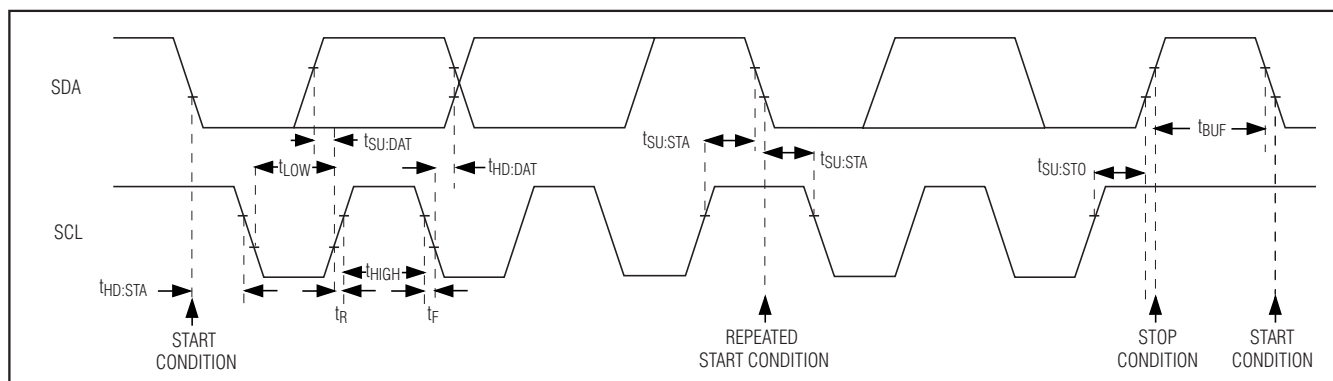

Figure 6. 2-Wire Interface Timing Diagram
The MAX9877 features an I2C/SMBus™-compatible, 2-wire serial interface consisting of a serial-data line (SDA) and a serial-clock line (SCL). SDA and SCL facilitate communication between the MAX9877 and the master at clock rates up to 400kHz. Figure 6 shows the 2-wire interface timing diagram. The master generates SCL and initiates data transfer on the bus. The master device writes data to the MAX9877 by transmitting the proper slave address followed by the register address and then the data word. Each transmit sequence is framed by a START (S) or REPEATED START (Sr) condition and a STOP (P) condition. Each word transmitted to the MAX9877 is 8 bits long and is followed by an acknowledge clock pulse. A master reading data from the MAX9877 transmits the proper slave address followed by a series of nine SCL pulses. The MAX9877 transmits data on SDA in sync with the master-generated SCL pulses. The master acknowledges receipt of each byte of data. Each read sequence is framed by a START (S) or REPEATED START (Sr) condition, a not acknowledge, and a STOP (P) condition. SDA operates as both an input and an open-drain output. A pullup resistor, typically greater than 500Ω, is required on SDA. SCL operates only as an input. A pullup resistor,